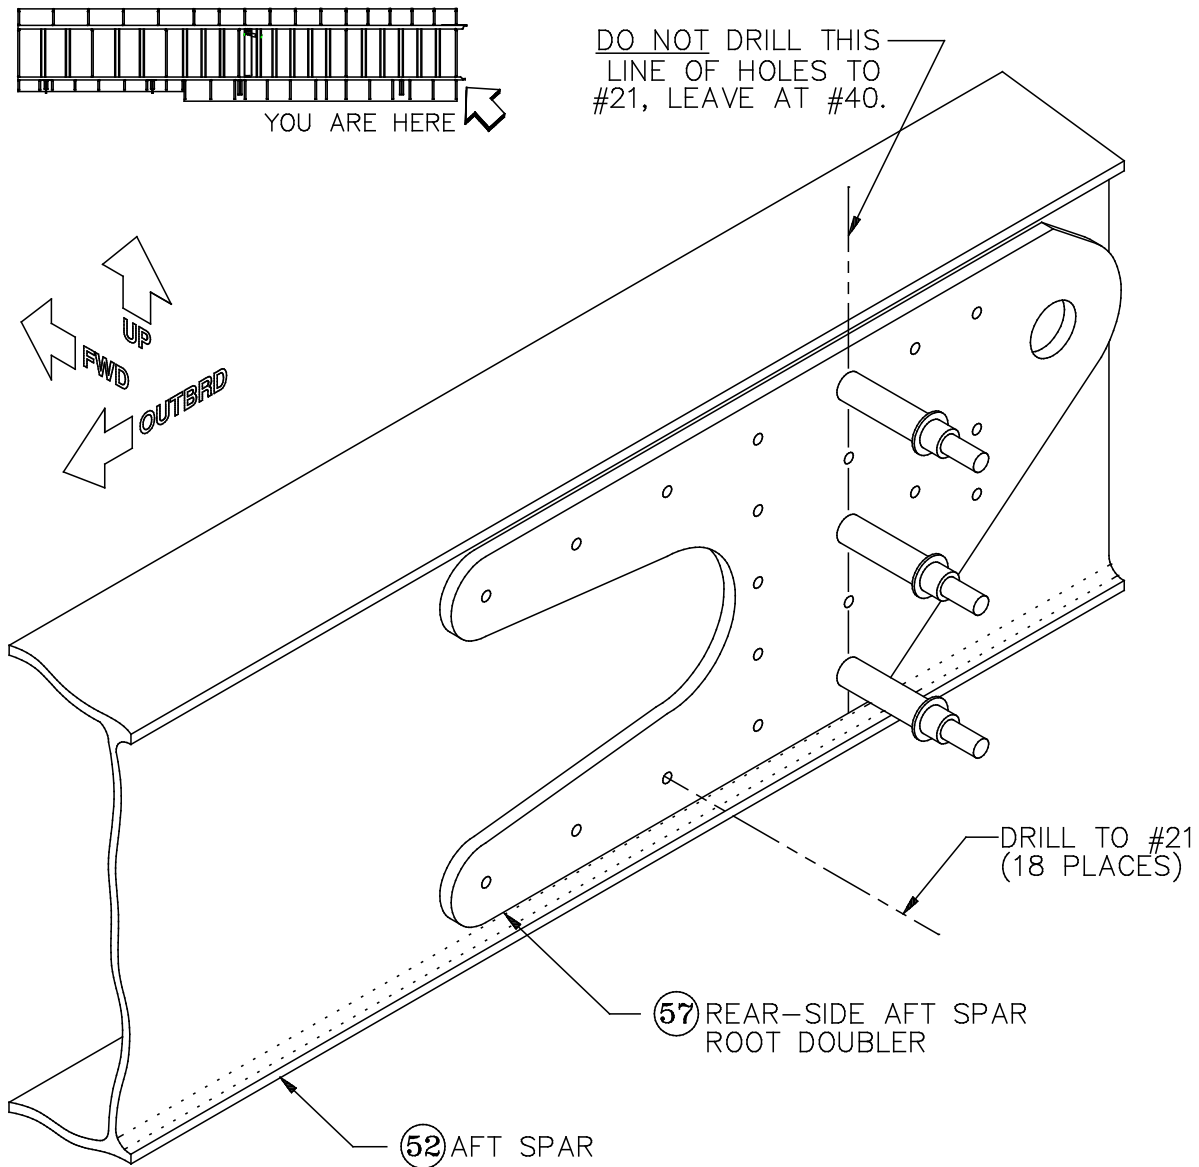

Figure 17: Drilling the Aft Spar Doublers to Final Size
D) **Except for the line of holes where the root ribs attach** (the third vertical column of holes from the wing-attach hole, as shown in Figure 17), drill all the holes in the assembly up to #21 diameter for 5/32" rivets. Cleco as you go. The five holes in the rib line will be enlarged to #30 diameter later when the ribs are fit to the spar.